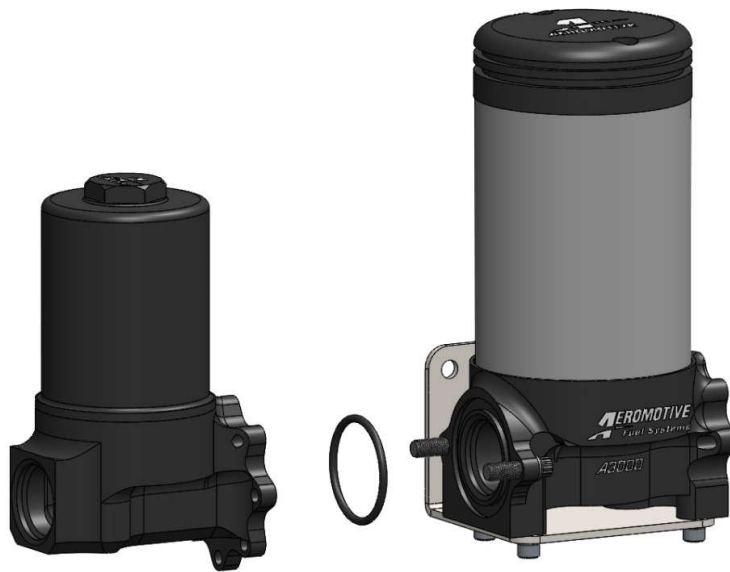

FIGURE 1-2
- Find a suitable place on the vehicle chassis to mount the Aeromotive fuel pump. Make sure the location will accommodate the pump mounting bolts, will position the pump at or below the sump, and is clear of the exhaust and any moving suspension or drivetrain components. Also, give careful consideration to keeping the pump clear of road obstructions or debris. The A3000 fuel pump is also equipped with an index-able pre-filter and bypass style regulator for line-pressure. This makes the final assembly more flexible, for fitment in any chassis. **Note: The supplied o-ring must be installed between the pump and regulator/filter to seal.** Both of these components may be indexed every 45 degrees (**FIGURE 1-2**).